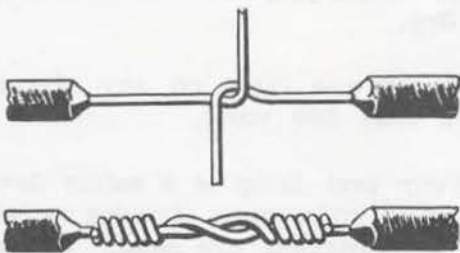

Figure 1
3. Using a common wire splice join a length of wire to each of the socket leads, leaving the one-inch stripped end free (Figure 1).